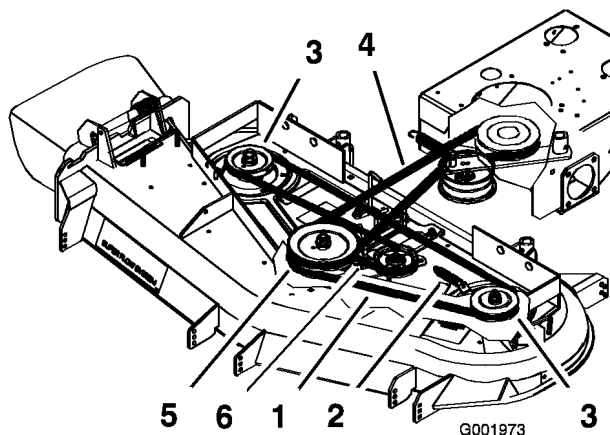

Figure 52
6. Disconnect the idler arm spring to relieve tension on the idler arm and idler pulley, then remove the worn mower belt (Figure 52).
7. Install the new mower belt around the two outside spindle pulleys, the idler pulley, and in the lower groove of the double spindle pulley (Figure 52).
8. Connect the idler arm spring (Figure 52).
10. Adjust the belt guide an 1/8 inch (3 mm) from the belt (Figure 52).